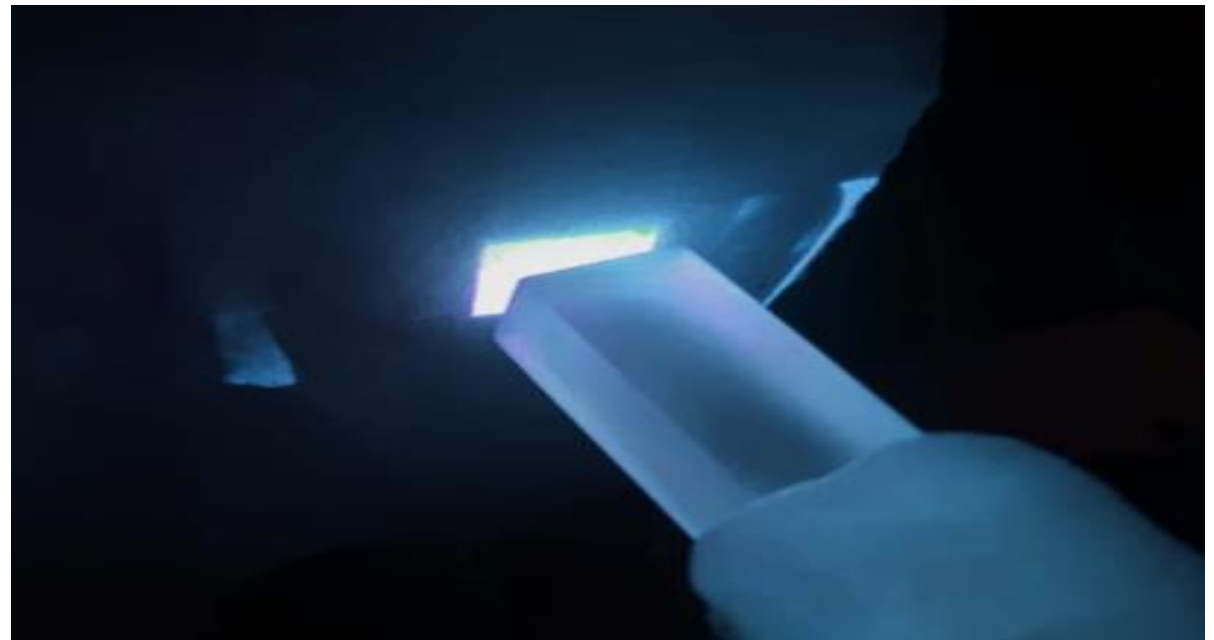

Figure4-6 Final white light source
- A white light source with adjustable color temperature is realized (*fig.4-6*)